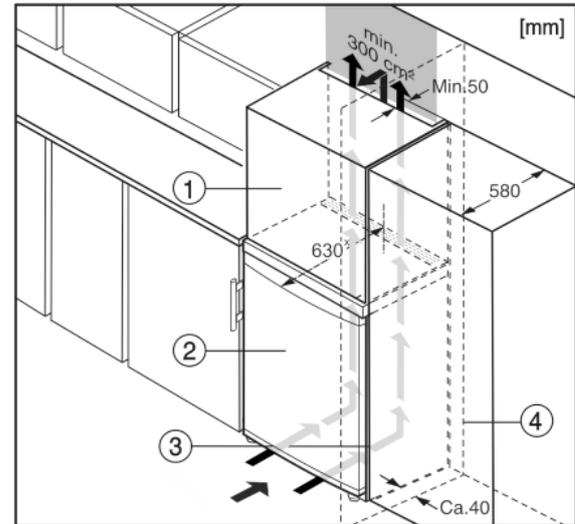

Fig. 6
The appliance can be built into kitchen units. A top cupboard Fig. 6 (2) can be added above the appliance in order to bring the appliance Fig. 6 (1) up to the height of the fitted kitchen units.\*
When installing with kitchen units (max. depth 580 mm), the appliance can be positioned directly next to the kitchen cabinet Fig. 6 (3). The appliance will project by 34 mm\* at the sides and 50 mm\* in the centre of the appliance in relation to the kitchen cabinet front.\*
If the appliance is installed with the hinges next to a wall Fig. 6 (4), the distance between appliance and wall has to be at least 40 mm. This corresponds to the projection of the handle when the door is open.